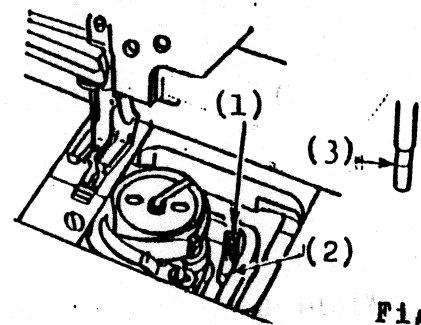

Fig.5
Pull out the oil gauge(1) and pour the oil from this hole(2) until the oil reached to the mark(3) as shown Fig.5.